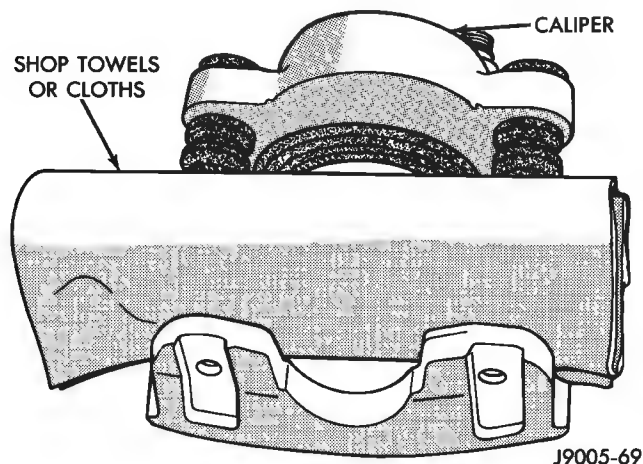

Fig. 15 Padding Caliper Interior To Protect Piston During Removal
- (1) Remove brakeshoes from caliper.
(2) Pad interior of caliper with minimum, 2.54 cm (1 in.) thickness of shop towels or rags (Fig. 15). Towels are needed to protect caliper piston during removal.